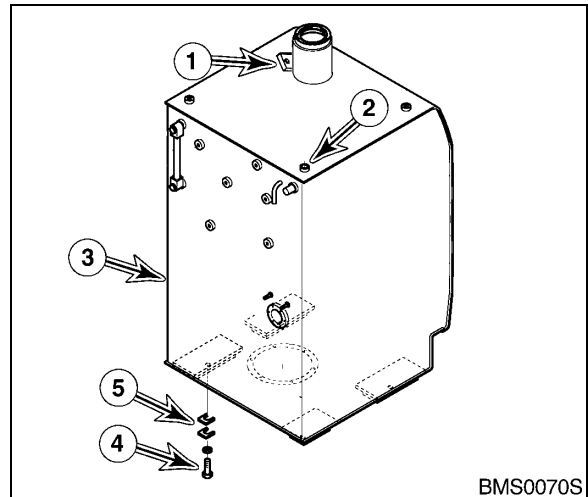

Figure 11
4. Tighten mounting bolts (4, Figure 11) after shims are installed.